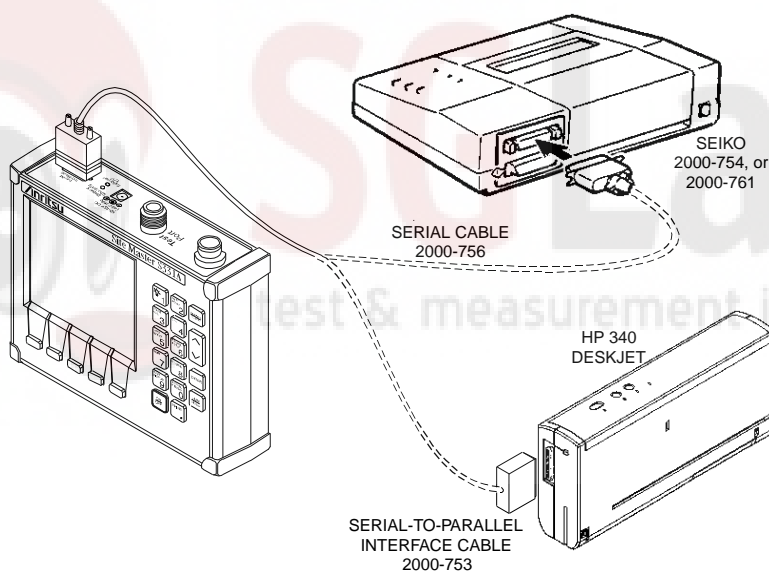

Figure 2-11. Printer Setup
Printing is accomplished with either of two printers: the Seiko DPU-411 thermal printer or the Hewlett Packard DeskJet 340 ink jet printer. Figure 2-11 shows a setup diagram for these two printers.
- Step 1.** Connect the printer as shown in Figure 2-11.